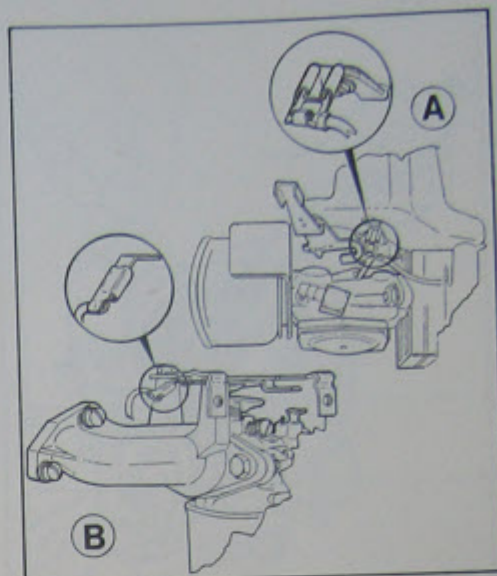

Fig. 9 Stop wire terminal
- If no spark, remove earthing wire from stop control terminal (Fig. 9). Repeat test.